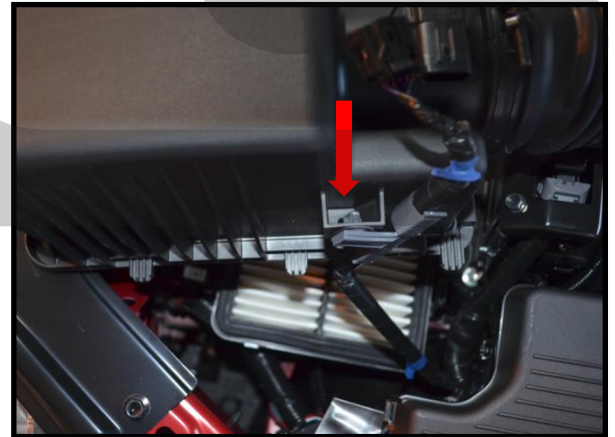

Figure 1f
- e) **Disconnect the MAF wiring and pull up on air box lid and remove it from the car** (Figure 1f). You will need needle nose pliers to compress the sides of the wiring harness tie down.